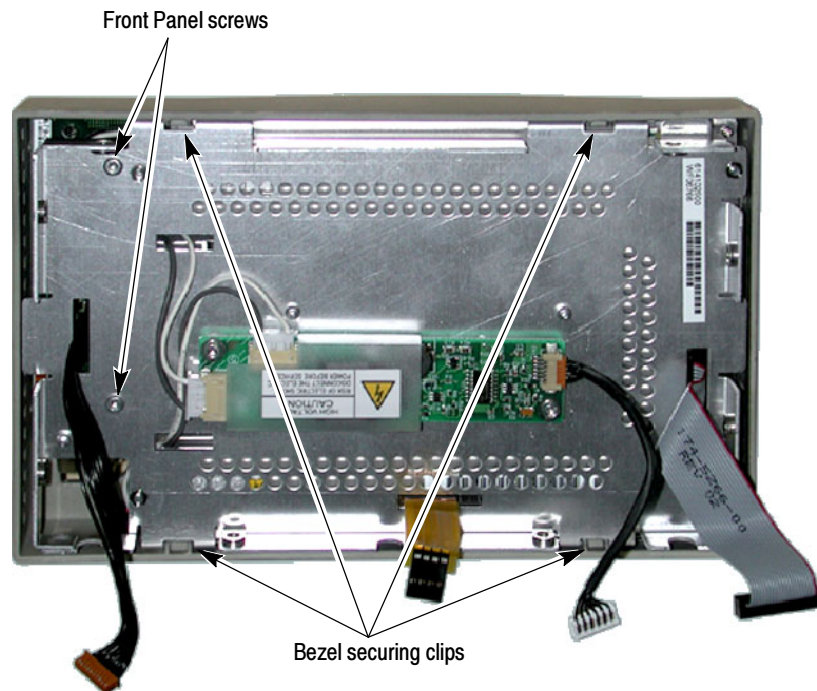

Figure 4-5: Front panel disassembly
5. Remove the two screws securing the bezel and Front Panel board to the frame (see Figure 4-5).